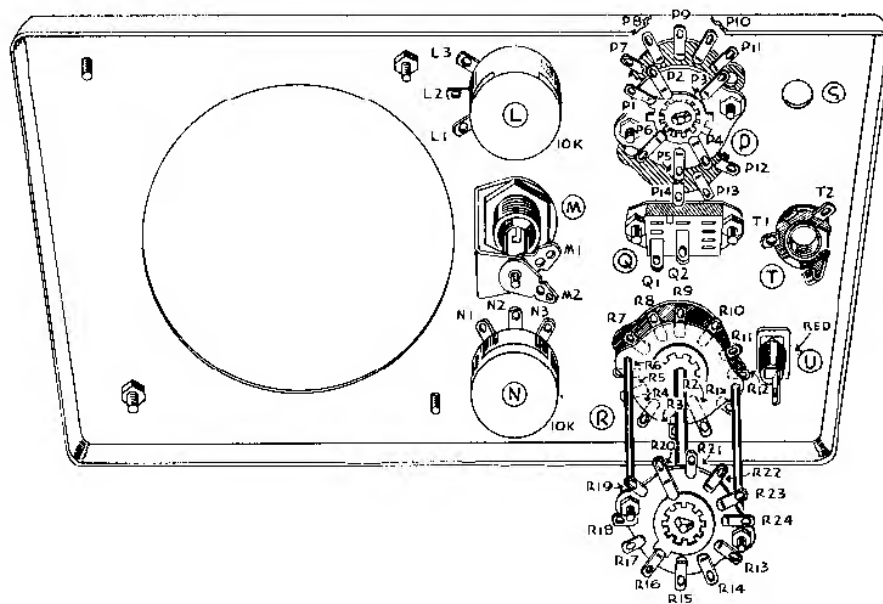

Fig. 5 Mounting of Parts on Chassis
Note Figure 5 for the proper placement of switches, controls, etc. on the panel. Place all contacts and lugs in the same relative positions as shown in figure.
- ( ) Consult Figure 7 and mount the phone jack assembly in position T. Be sure the positioning of lugs is exactly as shown in Figure 5. Otherwise shorting might occur when the panel is placed on the cabinet.
- ( ) Mount the selector switch in location P. Keep the position of the lugs exactly as shown in Figure 5.
- ( ) Connect the 200K resistor from R6 (S) to R19 (NS). Be sure that the resistor leads cannot short to the switch wafer spacers. Use spaghetti if necessary.
- ( ) Connect a short bare wire jumper from R7 (S) to R19 (NS).
- ( ) Connect the 700K resistor from R8 (NS) to R19 (S).
- ( ) Connect the 2 Megohm resistor from R8 (S) to R21 (NS).
- ( ) Connect a short bare wire jumper from R9 (S) to R21 (NS).
- ( ) Connect the 7 Megohm resistor from R10 (NS) to R21 (S).
- ( ) Connect the 9 Megohm resistor from R11 (NS) to R22 (S).
- ( ) Connect a short bare wire jumper from R11 (NS) to R23 (S).
- ( ) Connect the 900K resistor from R11 (S) to R24 (NS).
- ( ) Connect the 90K resistor from R24 (S) to R1 (S). Be sure that the resistor leads cannot short to the switch wafer spacers. Use spaghetti if necessary.
- ( ) Mount the range switch on the panel in location R. Be sure AND HAVE THE LONG LUG ON THE REAR DECK located as shown in Figure 5 and Pictorial 2.